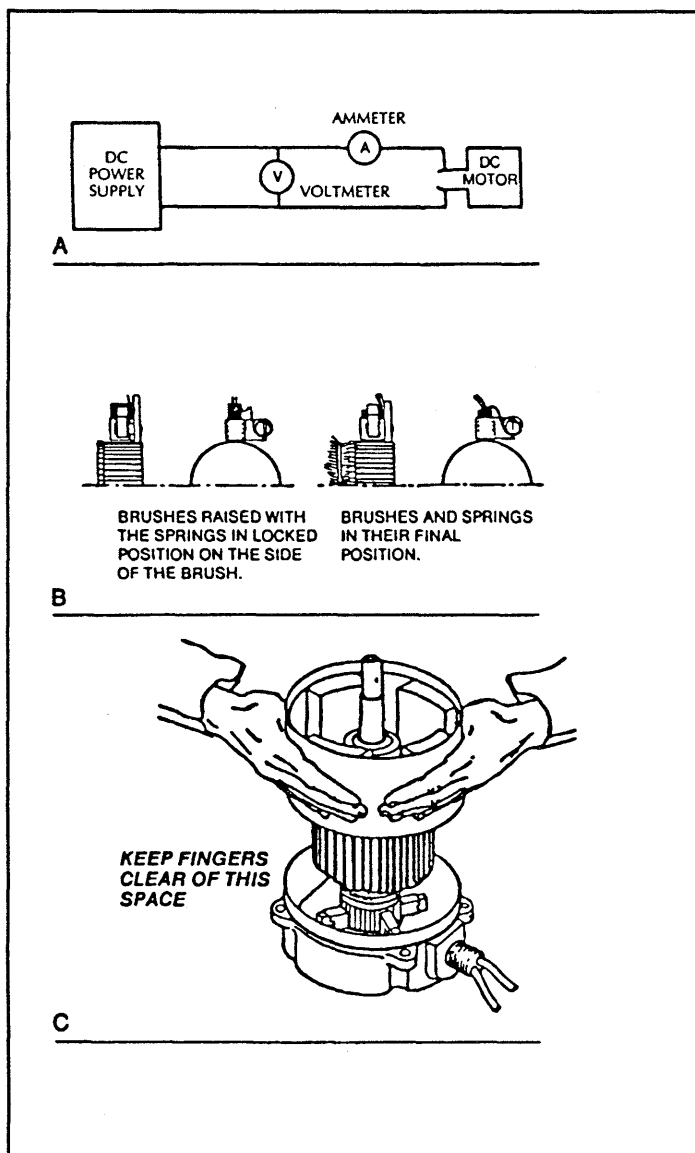

Figure 4-14: Electric Motor Service
4.14 Electric Motor (Figure 4-14)